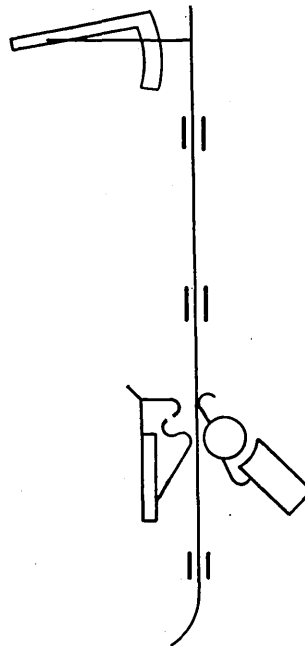

Figure 4-93. Sense Pressure Drag Measurement
Check the adjustment of the pressure pads as shown in Figure 4-93.
5. Tighten the locking nut and check the pressure as shown in Figure 4-93 and previously described. The recommended setting for the end pressure springs (1 and 8) is approximately 200 grams. This ensures that the other position falls in the desired range.